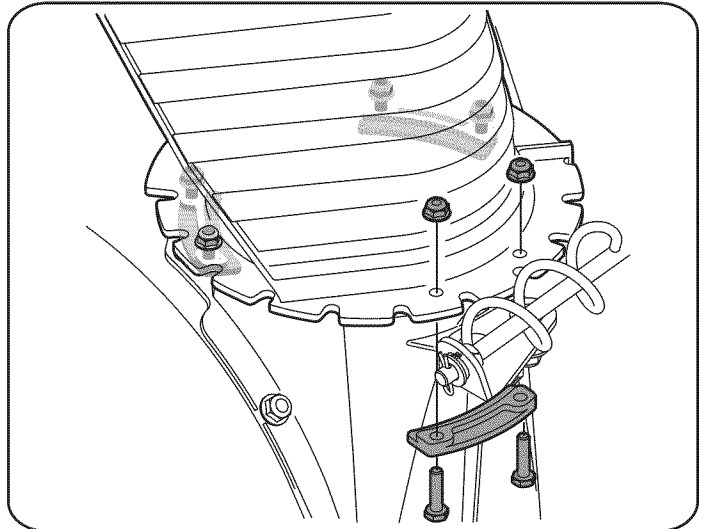

Figure 5
7. Secure flange keeper removed earlier with lock nuts and screws. Tighten down nuts securing the other two flange keepers. See Fig. 5.